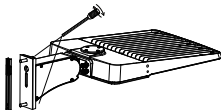

Figure 2-1
2. DIRECT MOUNTING (DM)
- Step1: Loosen the screws on the bracket with a screwdriver and take off the bracket, Figure 2-1;